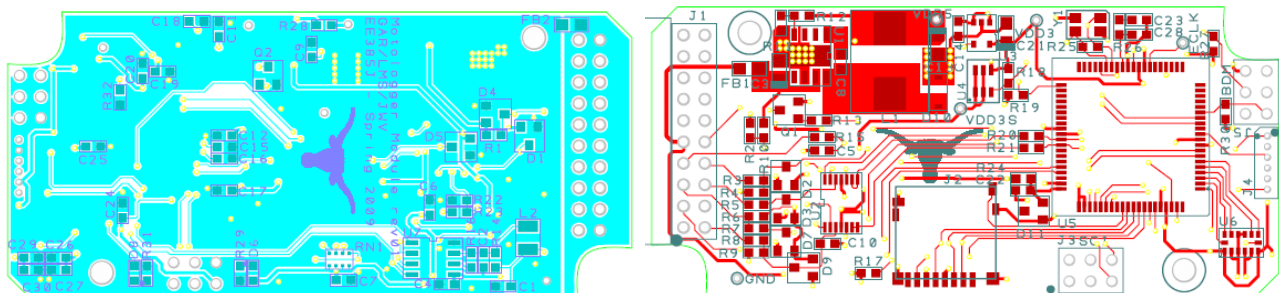

Figure 6.3. Bottom and top PCB layout for a 9S12 system.
7. Once you are sure everything fits, you will route the nets. Execute *Tools->SchematicPCB* and select *Consistency Check*. Execute update components if necessary. I like to route power and ground first. Avoid loops in the signals, because loops can pickup EM field noise. As you get more experience (after your 4th PCB design) you can use ground planes. However in this class, place ground and power paths in the shape of a capital E. Most of the signals in this class can be 7 to 10 mils wide. For the stepper motor, use 20 to 30 mil wide signals for power, ground and signals carrying motor current. Whenever possible increase the power and ground paths as will fit. For this introductory class I recommend that you do NOT cover the unused area with a ground plane or a power plane, as shown in Figure 6.3. Although ground planes are great for low noise or high frequency circuits, they do make it very hard to see what is connected to what. Later on in Lab 11, ground planes will also complicate the soldering process because of the thermal load of the plane (it will be hard to get it hot enough to melt solder). Here are some guidelines.